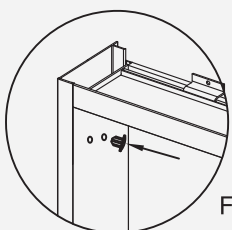

Fig 18
3. Fill the remaining holes with hole plugs ③ (Fig 18). Fill the rest of the shelf clip holes with decorative covers ⑭ (Fig 19).